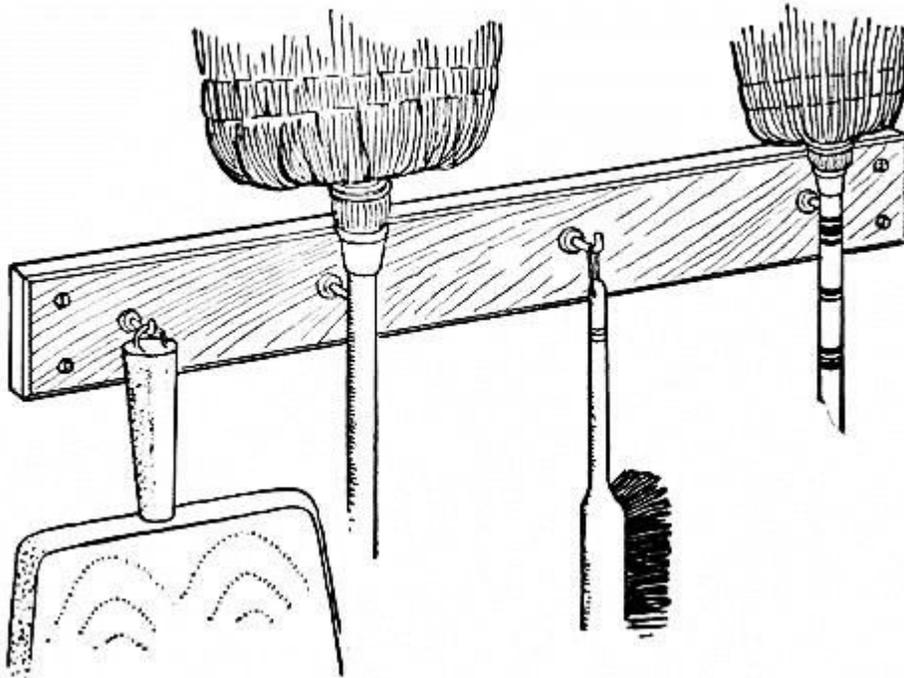

FIG. 46.—Broom and Dust-pan Rack.
**A Broom and Dust-pan Rack** is a handy article for the kitchen or broom-closet, and can be made as shown in Fig. 46.